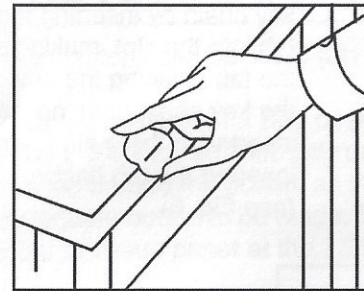

Fig. 6a
- c) Pressure Spring (1 1/4" dia. metal disc) NOTE: Slightly bend spring over the edge of table or desk and place it, centered, on the back of the mirror (see Fig. 6a and 6b).